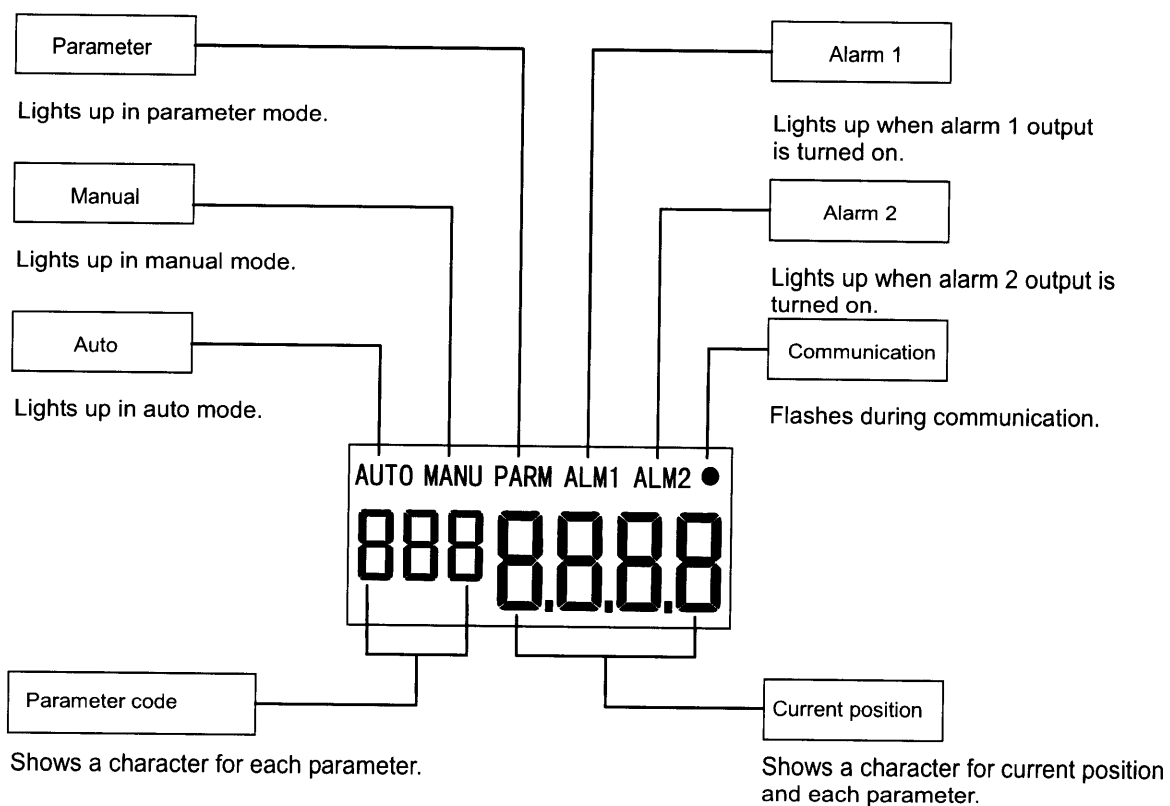

Fig. 14
- \*5: A Description of pressure gauges mounted on the positioner are as shown in Fig. 14.